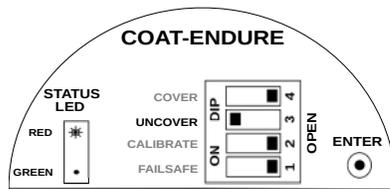

Figure 10: Uncover Delay Switch Position
2. To set the Uncover Delay, set the UNCOVER switch to CLOSE position as shown in Figure 10.